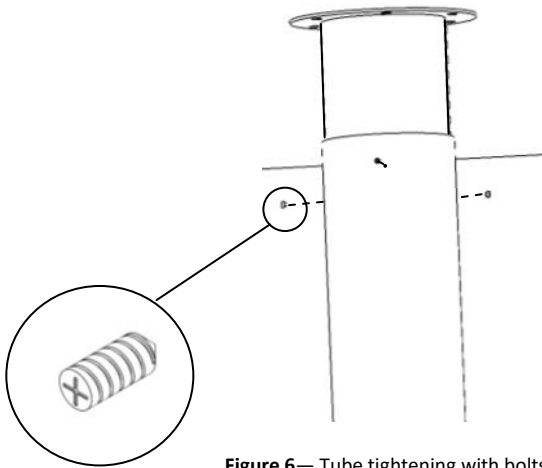

Figure 6— Tube tightening with bolts
After the part (K) is fixed to the ceiling and the set (L) is completely assembled, place the set (L) on the part (K), tighten with the supplied bolts, as shown in figure 6. Check that the assembly is well placed and tight.